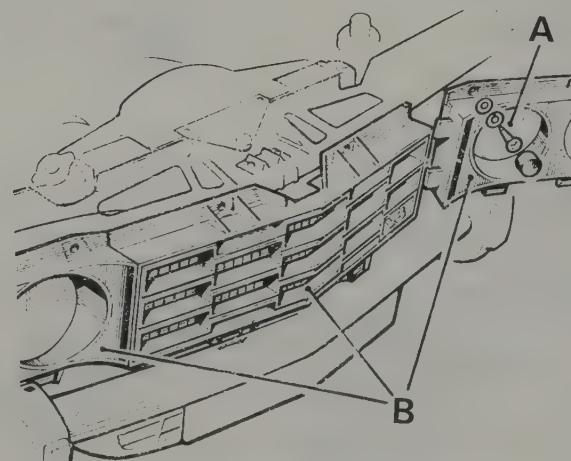

Fig. 1.35. Grille attachment (later models)
- 9 Remove the radiator grille late models as described in the following paragraphs 10 to 12 (Fig. 1.35).